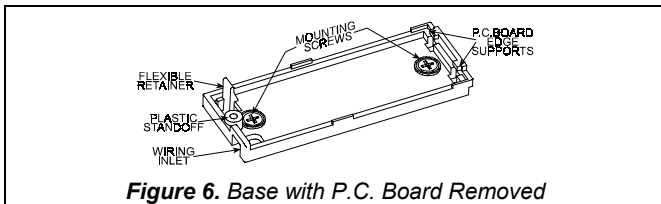

Figure 6. Base with P.C. Board Removed
E. Flex out the circuit board retainer (Figure 6) and detach the circuit board from the base.